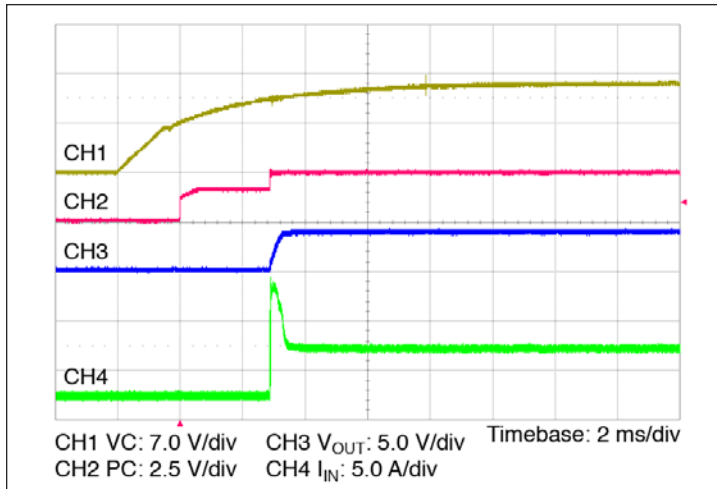

Figure 11 – Start up from application of VC; V_{IN} pre-applied
- Stand-alone operation (VC applied after V_{IN}): In this case the VTM output will begin to rise upon the application of the VC voltage (See Figure 11). The Adaptive Soft Start Circuit (See Section 11) may vary the output rate of rise in order to limit the inrush current to its maximum level. When starting into high capacitance, or a short, the output current will be limited for a maximum of 120 μ /sec. After this period, the Adaptive Soft Start Circuit will time out and the VTM module may shut down. No restart will be attempted until VC is re-applied or PC is toggled. The maximum output capacitance is limited to 1000 μ F in this mode of operation to ensure a successful start.